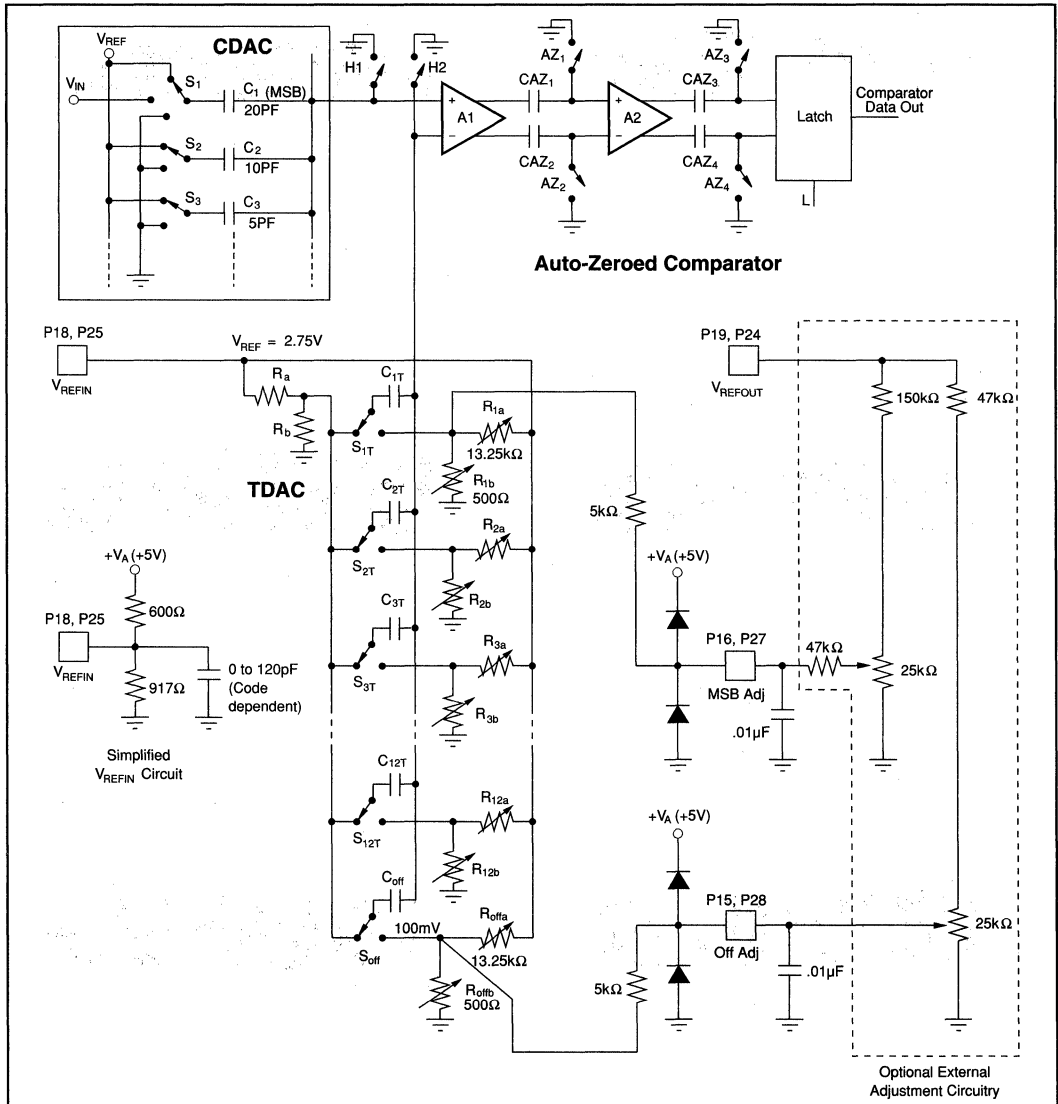
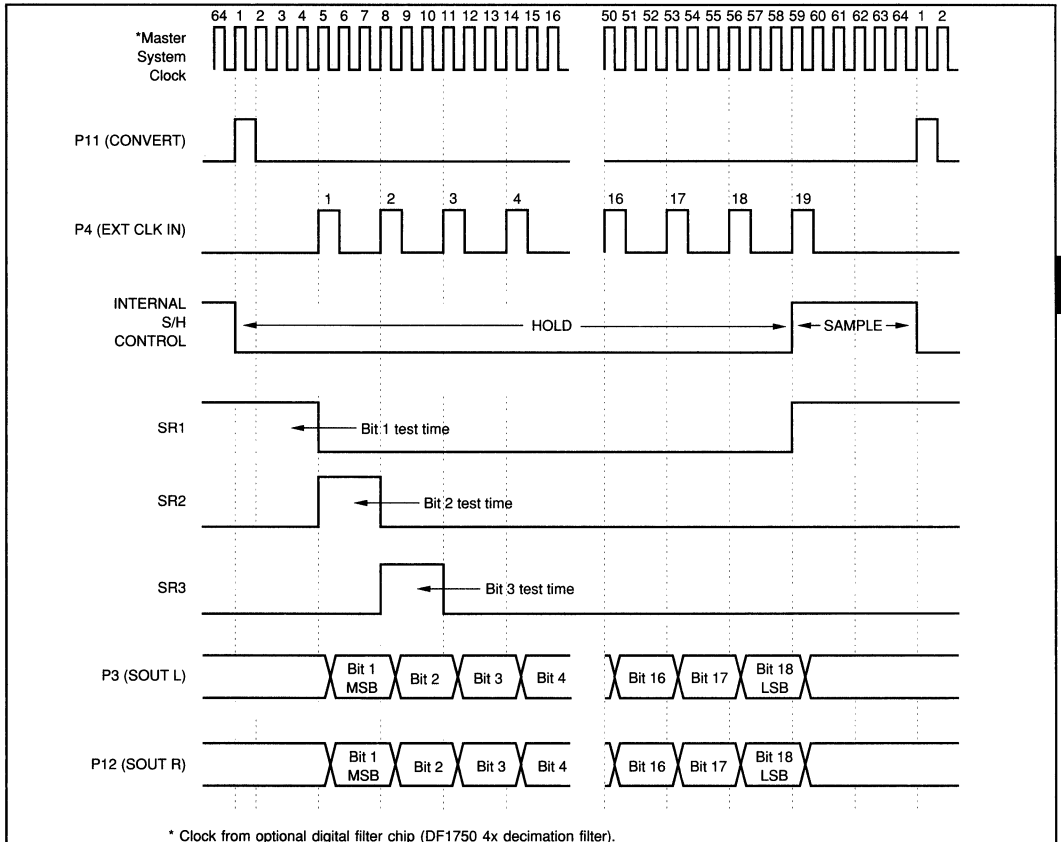

FIGURE 1. PCM1750 Simplified Circuit Diagram.
FIGURE 2. PCM1750 Input/Output Timing Diagram.
NOTES: (1) Binary Two's Complement coding. (2) The PCM1750 is tested and guaranteed at 5.2 μs , however it will operate at 4.5 μs . The dynamic performance is not guaranteed or tested at this conversion rate. (3) Ratio of $Signal_{RMS} / (Distortion_{RMS} + Noise_{RMS})$. (4) A/D converter sample frequency (4 x 48kHz; 4X oversampling per channel). (5) A/D converter input frequency (signal level). (6) Referred to input signal level. (7) Ratio of $(Distortion_{RMS} + Noise_{RMS}) / Signal_{RMS}$. (8) Externally adjustable to zero error. (9) Differential non-linearity error at bipolar major carry input code. Externally adjustable to zero error. (10) Full scale range (5.50V). (11) Refer to equivalent circuit in Figure 1. (12) Worst case operating condition. Refer to typical performance curves.
After each conversion, the dual ADC returns to the SAMPLE mode in order to track the input signals. The switches shown in the simplified circuit diagram of Figure 1 will then be in the following states: S1 connects V_{IN} to C1 ; S2 to S18 connect C2 to C18 to V_{REF} ; H1 and H2 connect the top plates of the capacitor arrays to analog common; and the latching comparator is switched into its auto-zero mode by closing AZ1 to AZ4. Notice that C1 serves two purposes: it samples and stores the input signal V_{IN} and it is the MSB of the CDAC. Storing V_{REF} on C2 to C18 creates a bipolar offset, enabling V_{IN} to cover a span from $-V_{REF}$ to $+V_{REF}$.
occurs during the SAMPLE period (see the timing diagram shown in Figure 2). These errors are stored on the AC coupling capacitors (CAZ1 to CAZ4, shown in Figure 1) between the gain stages. During the SAMPLE period the inputs to gain stages A1 and A2 and the latch are grounded by switches H1, H2, and AZ1 to AZ4. Capacitors CAZ1 and CAZ2 track the amplified offset voltage of gain stage A1 and capacitors CAZ3 and CAZ4 do the same for A2. At the beginning of a conversion cycle, the autozeroing switches open and the instantaneous amplified value of both the DC offset voltage and the low-frequency flicker noise is stored on the coupling capacitors to produce zero comparator offset during a conversion cycle.
The timing diagram in Figure 2 illustrates the successive approximation routine of the PCM1750. Control signals CONVERT and CLK are derived from a master system clock which comes from a $256f_s$ ($256 \times$ the base sampling frequency of 48kHz) clock used by the optional digital filter. There are 64 clocks in the timing diagram because the PCM1750 is shown operating at 4 times the standard 48kHz sample rate (192kHz).
analog common (see Figure 1). This terminates the comparator auto-zero cycle and simultaneously switches (co-phase sampling) both converters from tracking their respective input signals into the HOLD mode, thus capturing the instantaneous value of V_{IN} (with a small delay specified as the aperture time).
For example, the testing of bit-2 proceeds in the following manner. The positive pulse from the second shift register element SR2, (see Figure 2 and 4) is applied to the bit-2 data latch and NOR gate. The NOR gate in turn drives S2 and switches bit-2 at the beginning of the bit-2 test interval. Note that the bit interval must be long enough to allow both the comparator input to settle and the comparator to respond. On
Notice from the timing diagram in Figure 2 that the successive approximation algorithm operates synchronously with an external clock to minimize digitally-coupled switching noise from corrupting either the sample-to-hold operation or the critical comparator bit decisions. The two serial output data streams are derived synchronously from the respective latched comparator outputs and are available after a delay of one CLKIN cycle as illustrated in Figure 2. The serial output driver cells are TTL and CMOS compatible.
Operation of the TDAC (trim DAC), which is laser trimmed at the wafer level, is described using bit-1 as an example. Switch S1T (see Figure 1) operates between two voltage levels—a reference level set by voltage divider Ra, Rb and a laser trimmable level set by R1a, R1b. The differences of these two levels is coupled by capacitor C1T to the minus input of the comparator to generate a correction voltage for